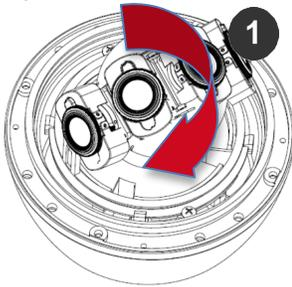

Figure 21: Adjust lens tilt and re-tighten the screws
- Adjust lens tilt as required and re-tighten the screws (Figure 21).